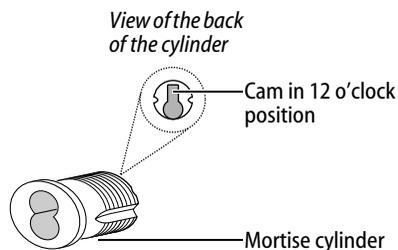

Figure 11c Mortise cylinder components
- 2 Rotate the cylinder cam to the 12 o'clock position, as shown in Figure 11c.